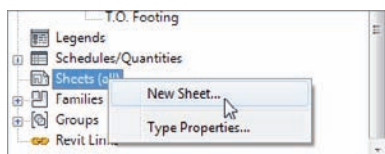

FIGURE 11.14 Creating a new sheet
1. In the Project Browser, find the Sheets (All) category, as shown in Figure 11.14. Coincidentally, it's located directly below DOOR SCHEDULE.
3. Select New Sheet (see Figure 11.14).